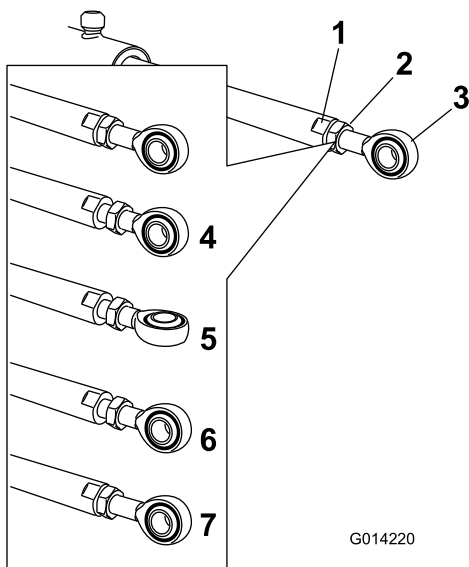

Figure 107
5. Hold the actuator rod at the flats of the rod using a wrench, then loosen the jam nut (Figure 107).
- Turn the rod end in the actuator rod to shorten or lengthen the extended actuator to the desired position (Figure 107).